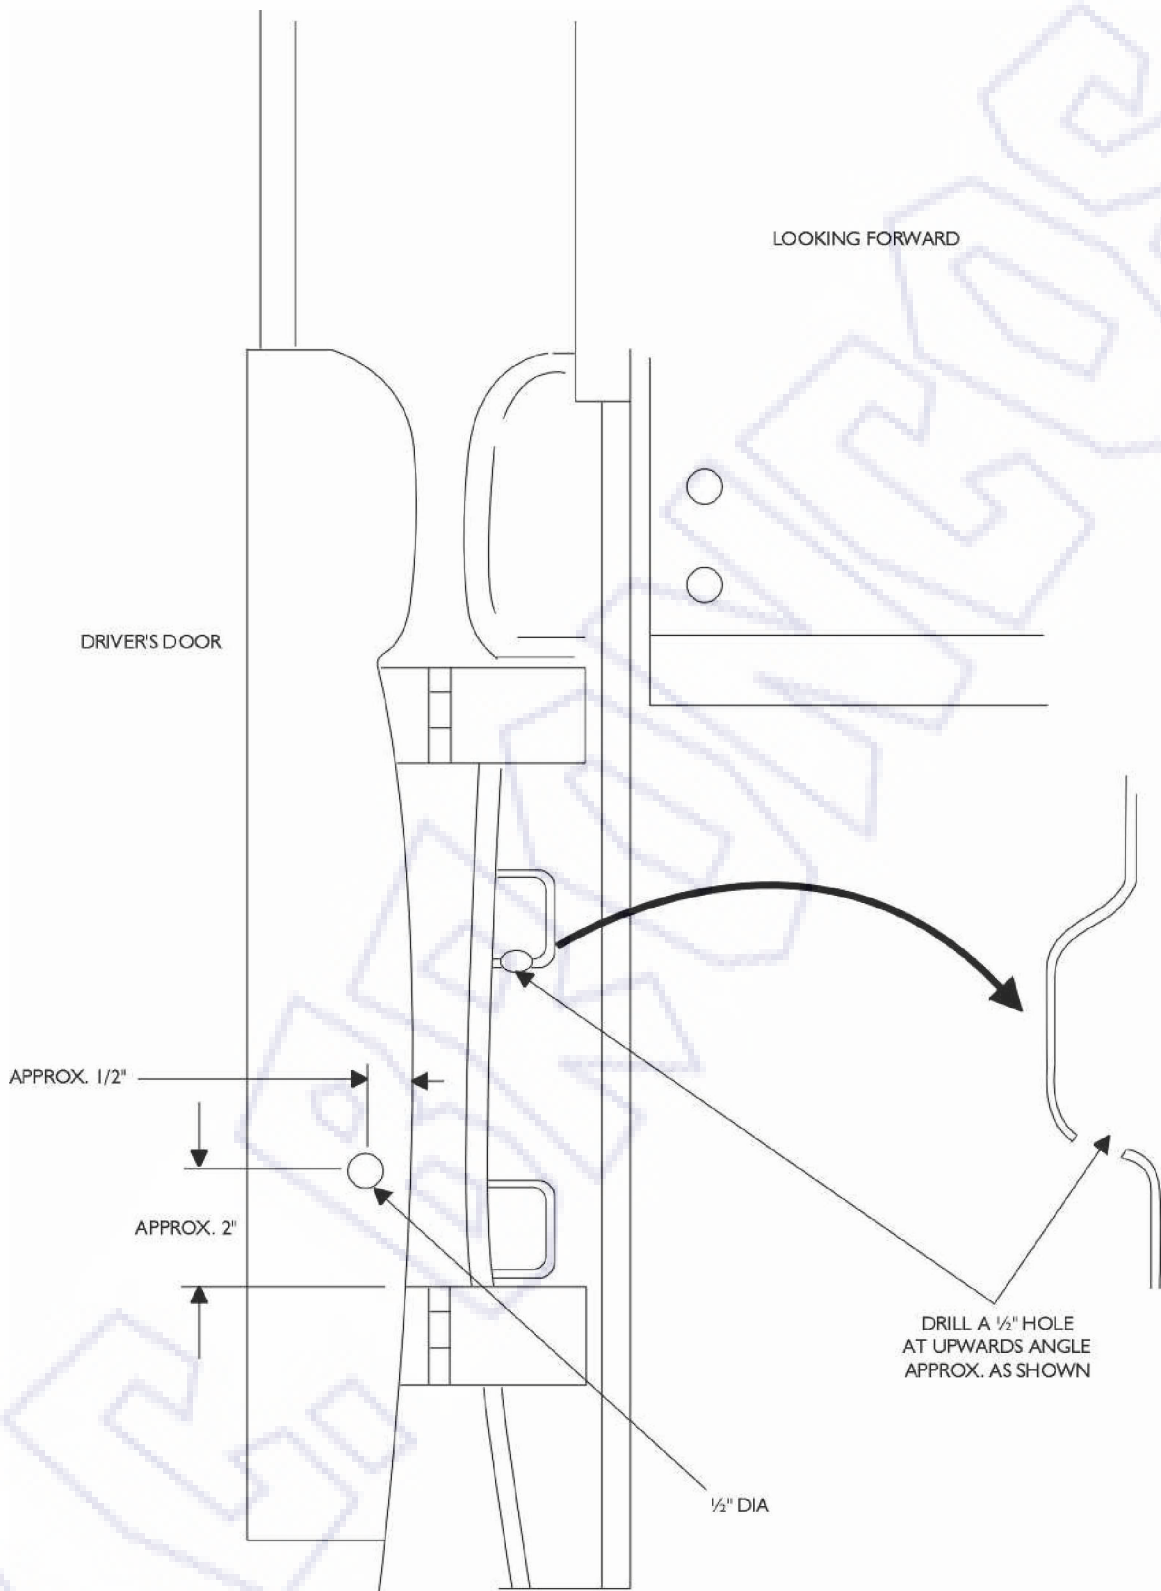

Figure 2. Drilling the door and door jamb.
7. With the door/fender/mirrors adequately protected (blanket, foam rubber, etc.), carefully swing the door fully open against the protected fender and secure it with tape. See Figure 2.
8. Locate and center punch the position for the wiring harness opening on the door and the door jamb as shown in Figure 2.
13. Carefully feed the wiring harness through the door hole. See Figure 2.